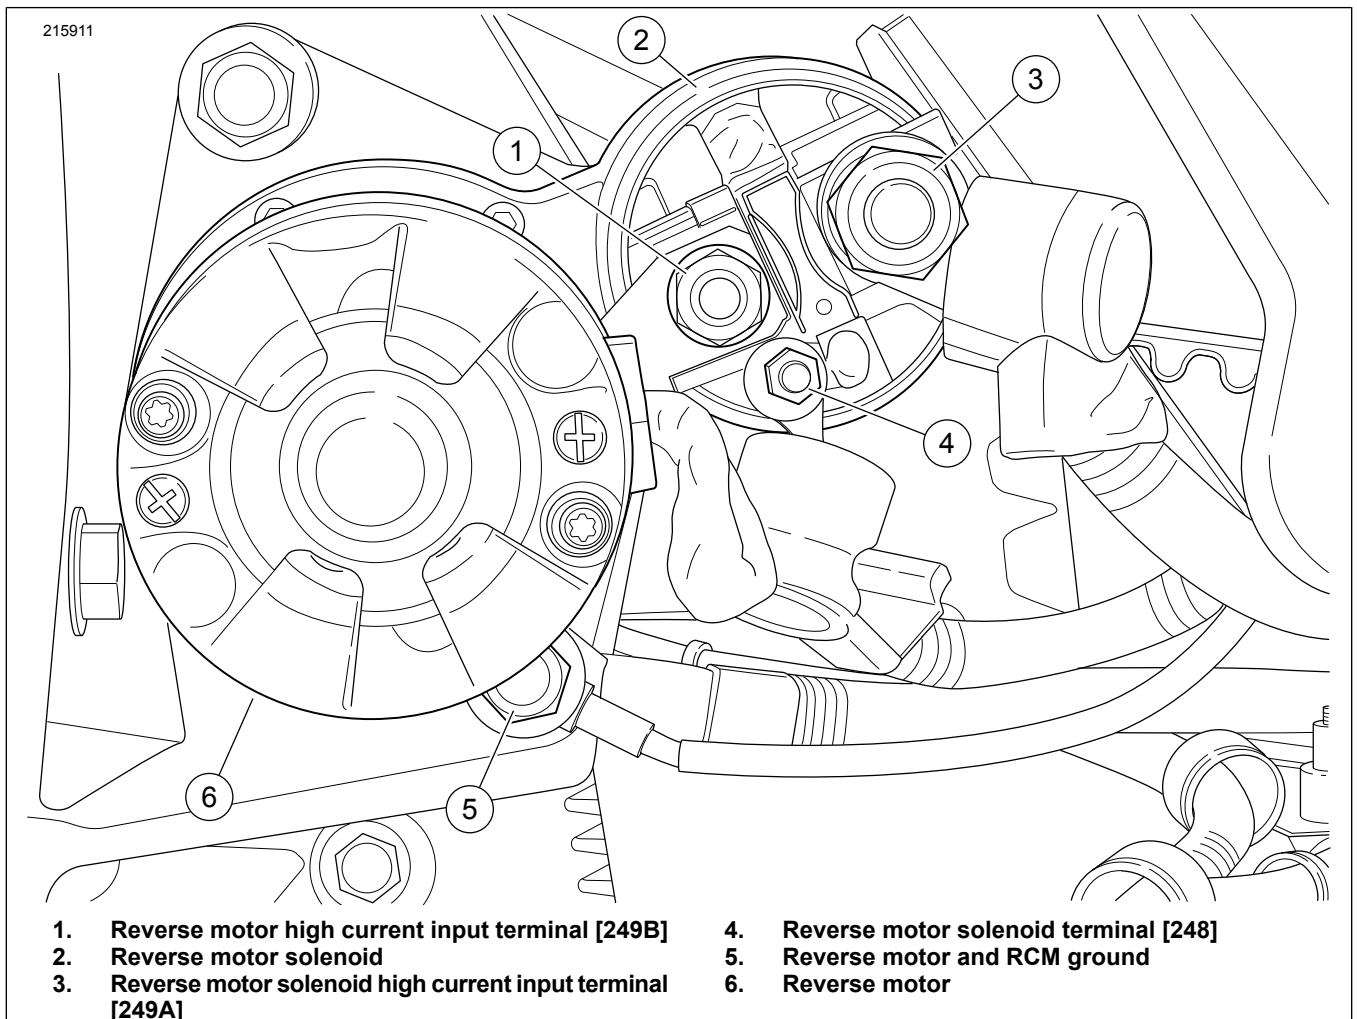

Figure 3. Reverse Motor without Electrical Kit
3. **Without electrical kit:** See Figure 3. When reverse is enabled, the ECM sends 5 V to the RCM through the (TN) wire. The RCM activates the reverse control solenoid. The control solenoid activates the reverse motor solenoid causing the reverse motor to engage and the vehicle to back up. Reverse is disabled for any of the following conditions: